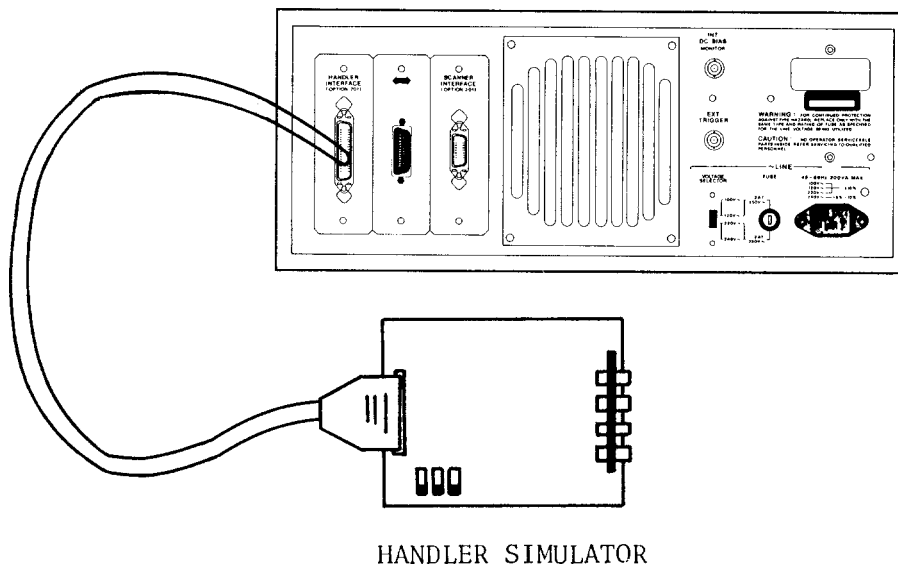

Figure 10-15. Handler Interface Function Test Set Up
17. Confirm that the LEDs on the handler simulator turn ON in accordance with the 4284A's output signals displayed on the LCD. The LEDs turn ON light in the sequence shown in Figure 10-15.